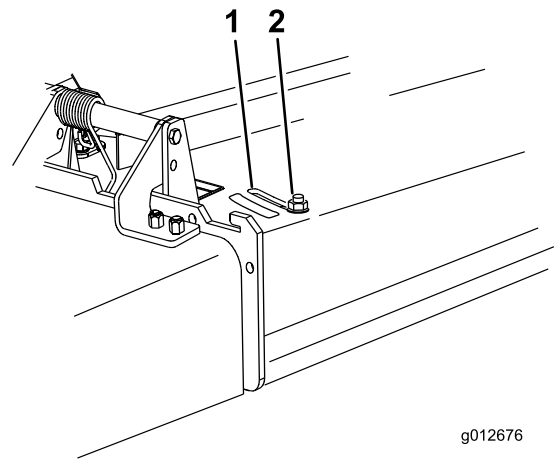

Figure 20
- To adjust the baffle, loosen the nut (Figure 20).